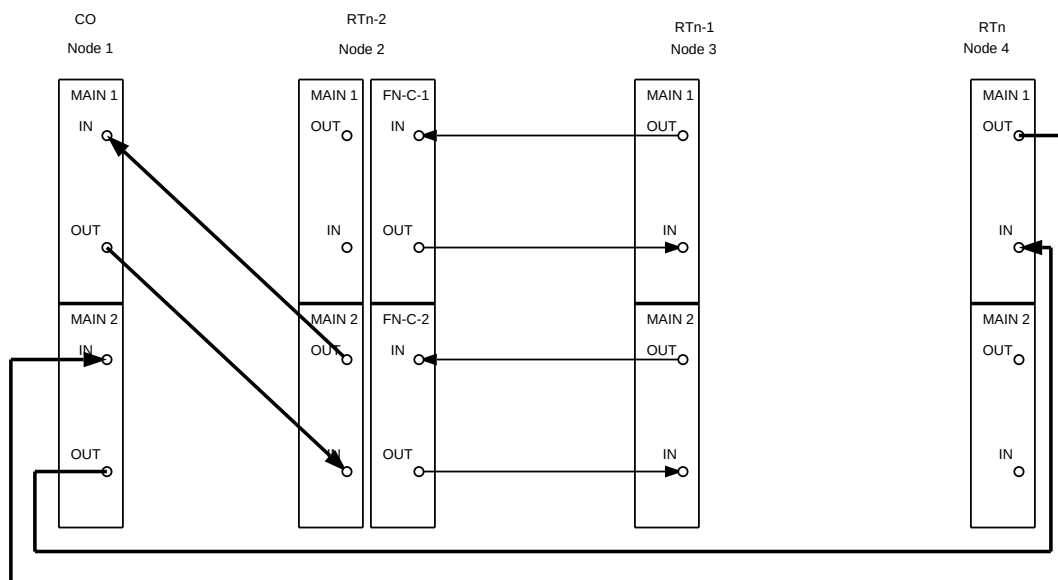

Figure 20. DDM-2000 OC-3 Drop Network to Ring Upgrade
42. At Node 3, disconnect the fibers from **FUNCTION UNITS C 2(P) OLIUs**. Remove the **OLIUs** from **FUNCTION UNITS C** slots. Momentarily depress the **UPD/INIT** pushbutton on the **SYSCTL**. (See Figure 20.)